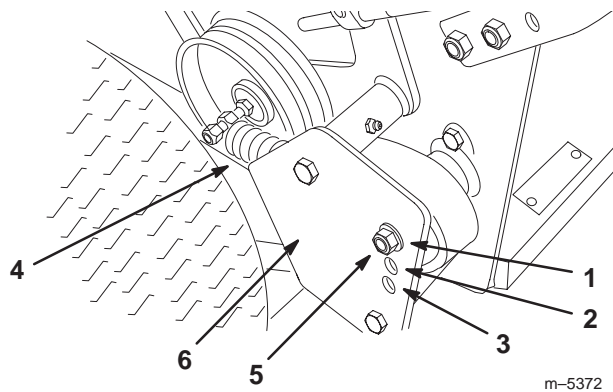

Figure 14
4. Remove the drive spring from the adjustment bolt (Fig. 14).
5. Remove the locknut that secures the adjustment bolt to the drive pulley shield (Fig. 14).
Note: The wheel drive tension is lowest when the bolt assembly is in Position A. The tension increases in Positions B and C (Fig. 14).